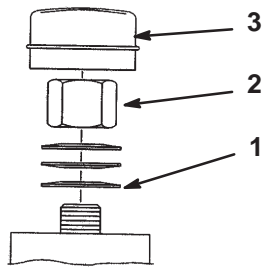

Figure 38
2. Remove dust cap from castor and tighten lock nut (Fig. 38).
3. Tighten until spring washers are flat and then back off a 1/4 turn to properly set the pre-load on the bearings (Fig. 38).
IMPORTANT: Make sure spring washers are installed correctly as shown in figure 38.